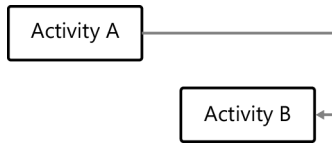

FIGURE 4-4 A finish-to-finish relationship is shown with an arrow from the finish of the predecessor activity to the finish of the successor activity.
- **Finish-to-finish (FF)** A finish-to-finish relationship is one in which the successor activity cannot finish until the predecessor activity has finished. For example, you cannot finish writing the user manual for a piece of software until the testing is finished. Figure 4-4 depicts how this would be represented diagrammatically.